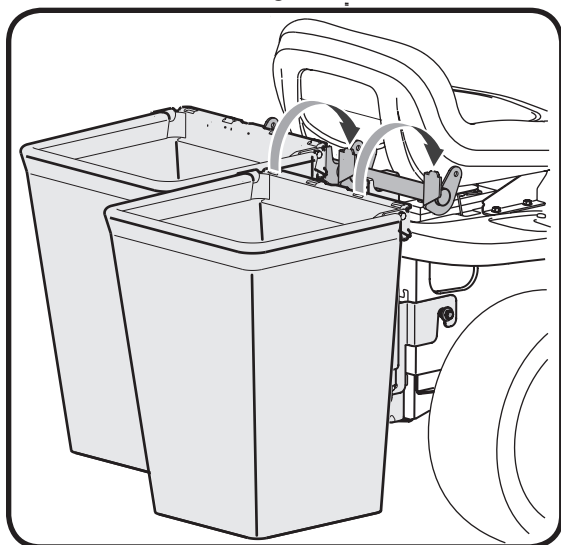

Figure 18
2. Attach the grass bags by hooking them onto the grass bag bracket using the slots in the grass bag and the tabs on the grass bag bracket as shown in Figure 18.